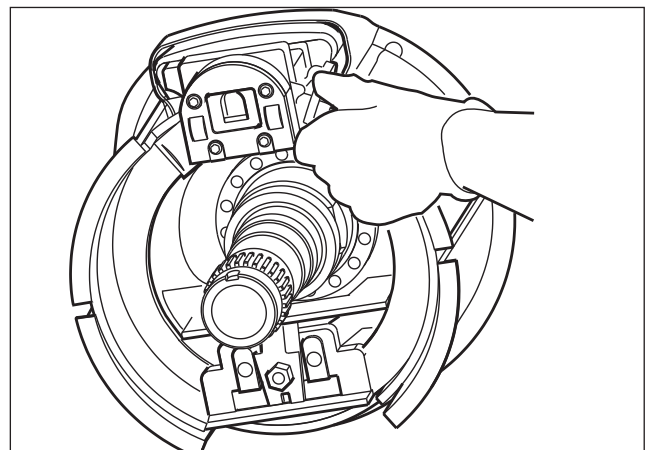

Fig. 3.8
8. Put the brake in position. - Fig. 3.8